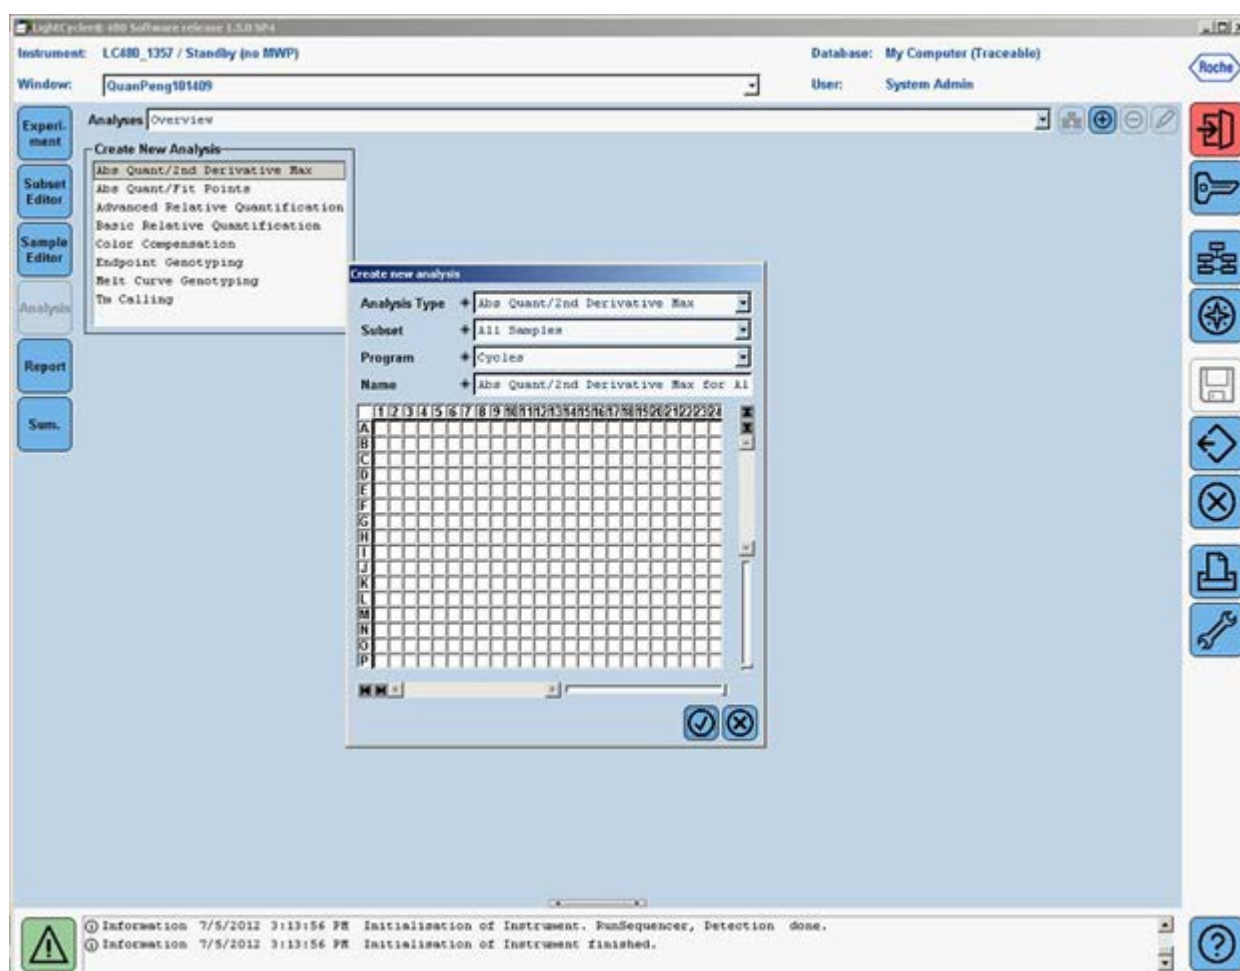

Figure 8. Setting up the analysis for the second derivative maximum.
3. Obtaining the crossing point (Cp) cycle values: Once the selected run file is open, click the “Analysis” button on the left-hand side of the window. In the “Create new analysis” list, double-click to select “Abs Quant/2nd Derivative Max”. In the “Create new analysis” window that opens, make sure the Analysis Type is “Abs Quant/2nd Derivative Max” (Figure 8). Click  to confirm the selection.